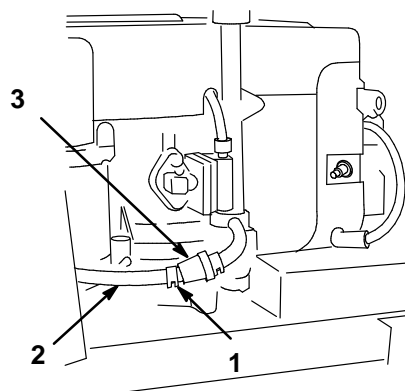

Figure 28
4. Squeeze the ends of the hose clamp together and slide it up the fuel line toward the fuel tank (Fig. 28).
5. Pull the fuel line off the filter (Fig. 28). Open fuel shut-off valve and allow gasoline to drain into an approved gas can.